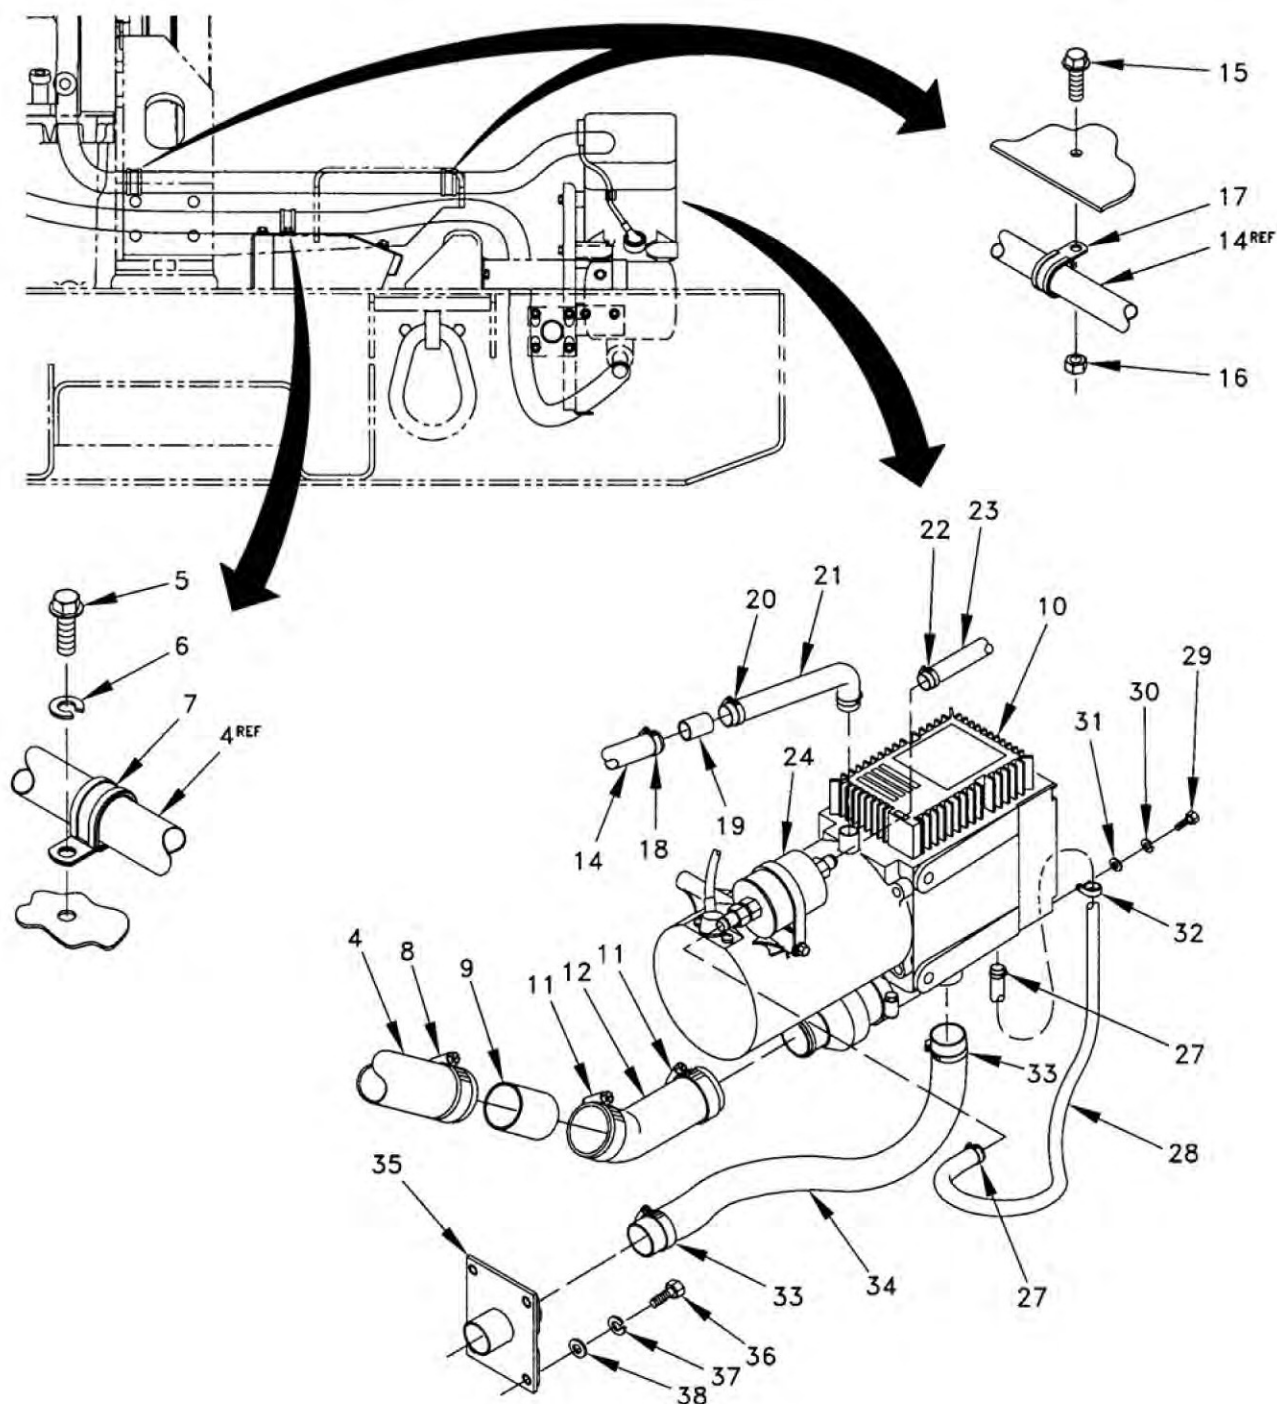

Figure 1. Winterization Heater Hoses (Sheet 2 of 2).
15. Remove screw (Figure 1, Sheet 2, Item 29), lock washer (Figure 1, Sheet 2, Item 30), washer (Figure 1, Sheet 2, Item 31), clamp (Figure 1, Sheet 2, Item 32), and flexible braided leak-off hose (Figure 1, Sheet 2, Item 28).